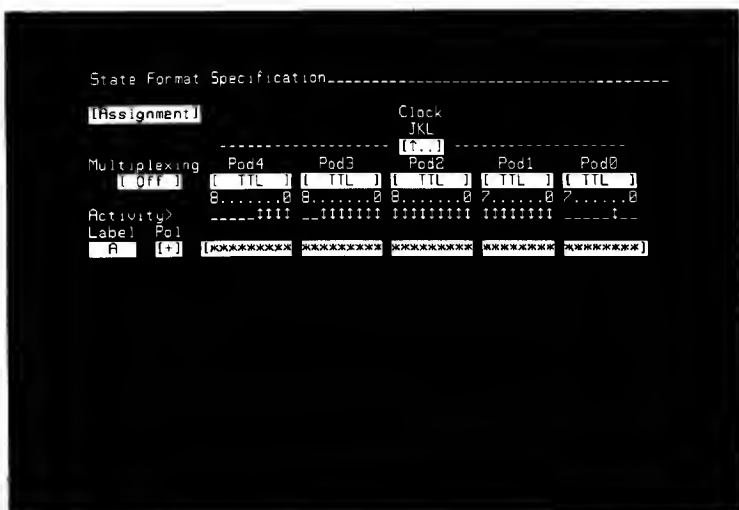

Figure 3-4. Default Format Specification
1. Press the FORMAT key. This selects the Format Specification menu. In this menu, you select the arrangement for presenting captured data so that the information will be easy to read and interpret. See figure 3-4.